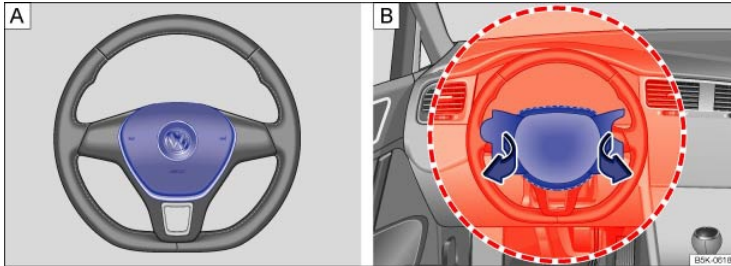
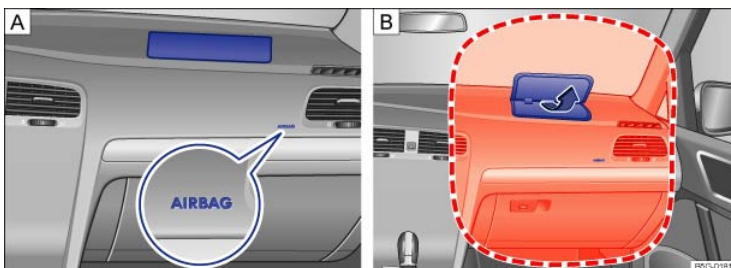

Fig. 70 Location and deployment zone of the driver front airbag.
Fig. 71 Location and deployment zone of the front passenger front airbag.
The vehicle is equipped with an Advanced Airbag System in compliance with the United States Federal Motor Vehicle Safety Standard (FMVSS) 208 or the Canada Motor Vehicle Safety Standard (CMVSS) 208 applicable at the time your vehicle was manufactured. The airbag for the driver is in the steering wheel hub ⇒ Fig. 70  and the airbag for the front passenger is in the instrument panel ⇒ Fig. 71 . The general location of the airbags is marked AIRBAG.
The areas marked in red (dotted lines) ⇒ Fig. 70  and ⇒ Fig. 71  indicate the airbag deployment zone. Never place or attach accessories or other objects (such as cup holders, telephone brackets, note pads, navigation systems, large, heavy or bulky objects) on the doors, on the windshield, over or near the area marked in red (dotted lines).
- Never place accessories or other objects (such as cup holders, telephone brackets, notepads, navigation systems, or things that are large, heavy, or bulky) on the doors or attach them to the doors; never place them over or near the area marked AIRBAG on the steering wheel, instrument panel, or seat backrests, or between those areas and someone in the vehicle ⇒ Fig. 70 and ⇒ Fig. 71. Such objects could cause serious injury in a collision, especially if an airbag inflates.